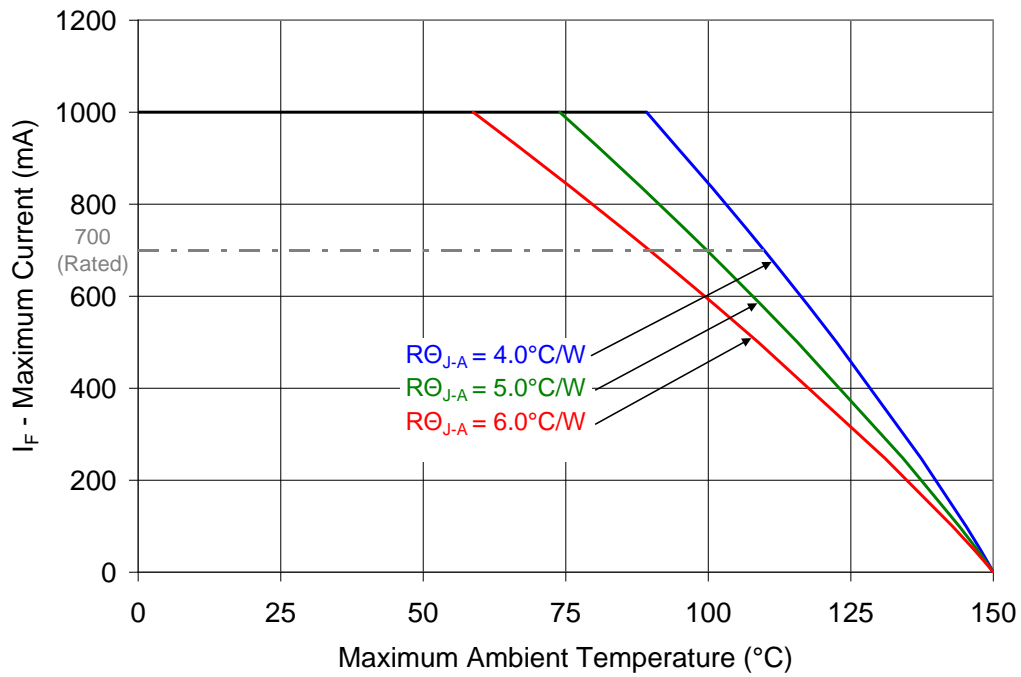

Figure 10: Maximum forward current vs. ambient temperature based on  $T_{J(\text{MAX})} = 150^{\circ}\text{C}$ .
- Maximum DC forward current (per die) is determined by the overall thermal resistance and ambient temperature. Follow the curves in Figure 10 for current derating.
Notes for Figure 10: